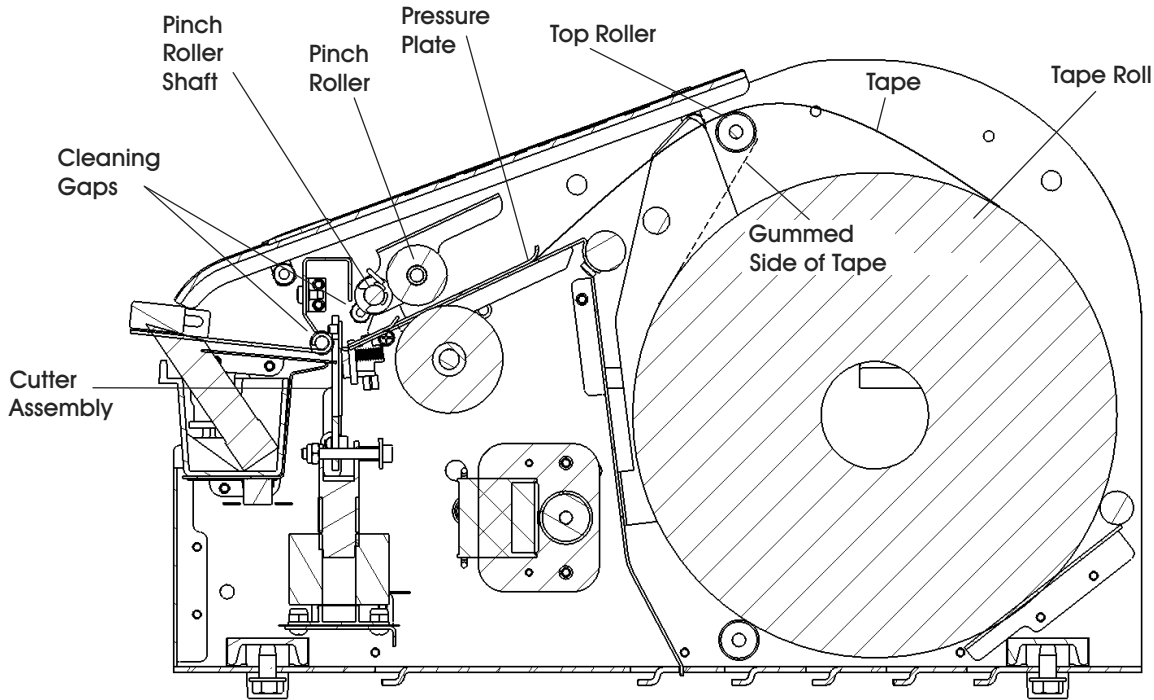

Figure 2
4. Feed the tape, gummed side down, over the top roller, under the tape guide flaps, and under the pinch roller. (See Figure 2)
5. Place the pressure plate over the tape and release the pinch roller. (See Figure 2)